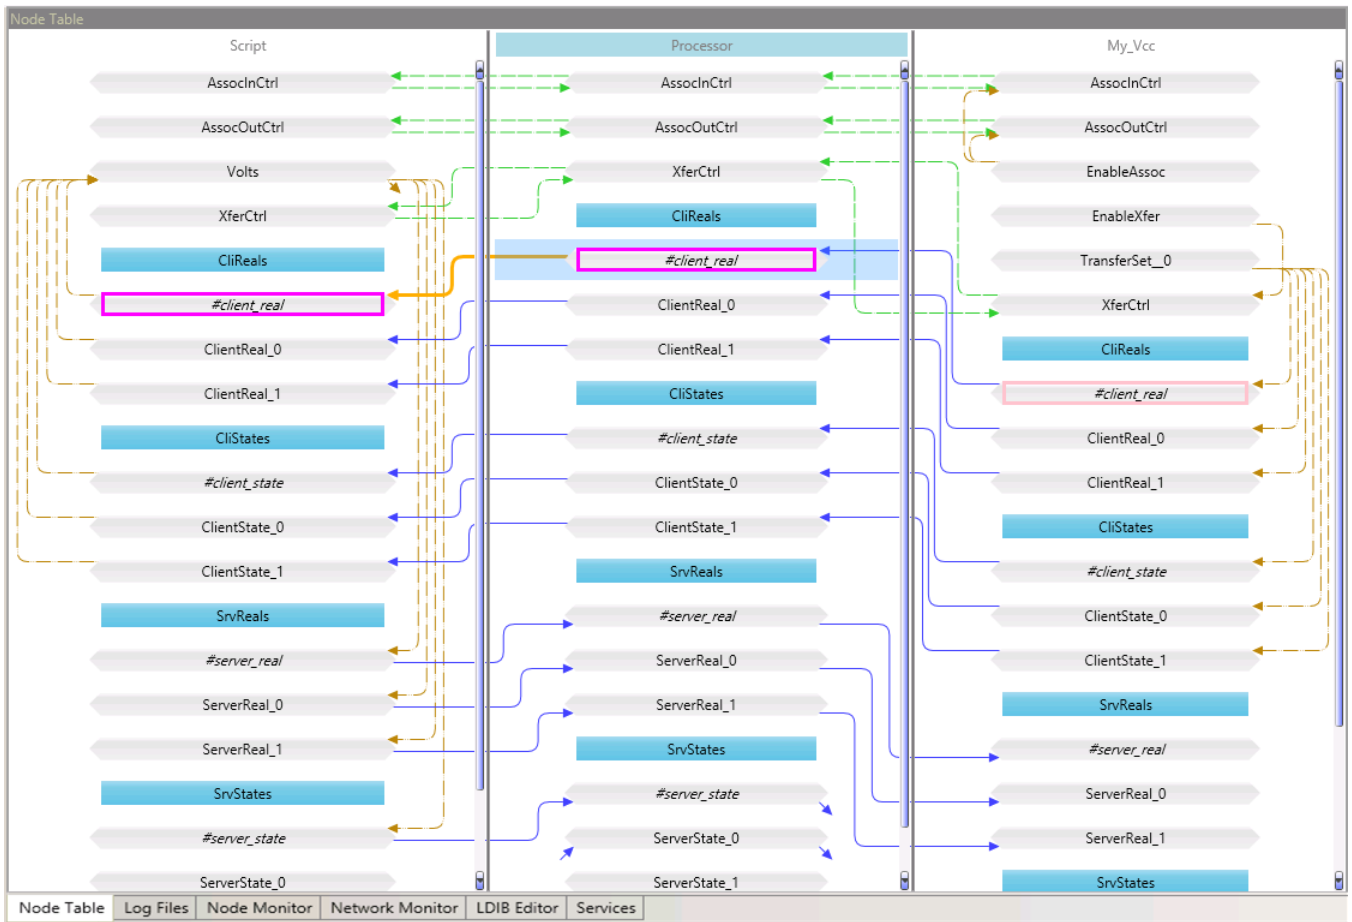

Figure 66: Node Table of Complete Configuration with the Batch File Loaded
4. Click on the **Open** button, which will generate nodes for each of the prototype nodes that you created. Figure 66 shows how the configuration looks with the generated batch nodes.
Note that you can change the values of the Processor nodes from the Node Monitor. For example, you can change AssocOutCtrl to 0. This does not have much impact now, but it will once an association has been made. A textbox around a value indicates that you can change the value. In Figure 66, each of the Processor nodes has a textbox around the value.